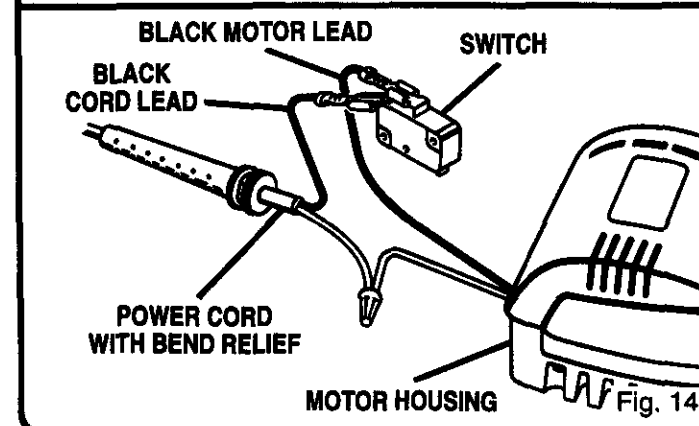

Fig. 14
4. Unplug switch leads from the switch. See *Figure 14.*